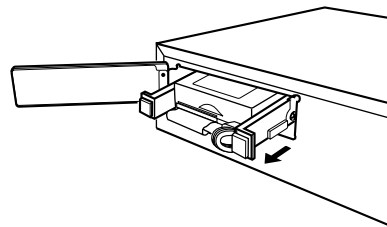

Fig. 3
- Draw the HDD tray forward by about 5.5cm so that it does not get in the way of the removal work. (Fig. 3)